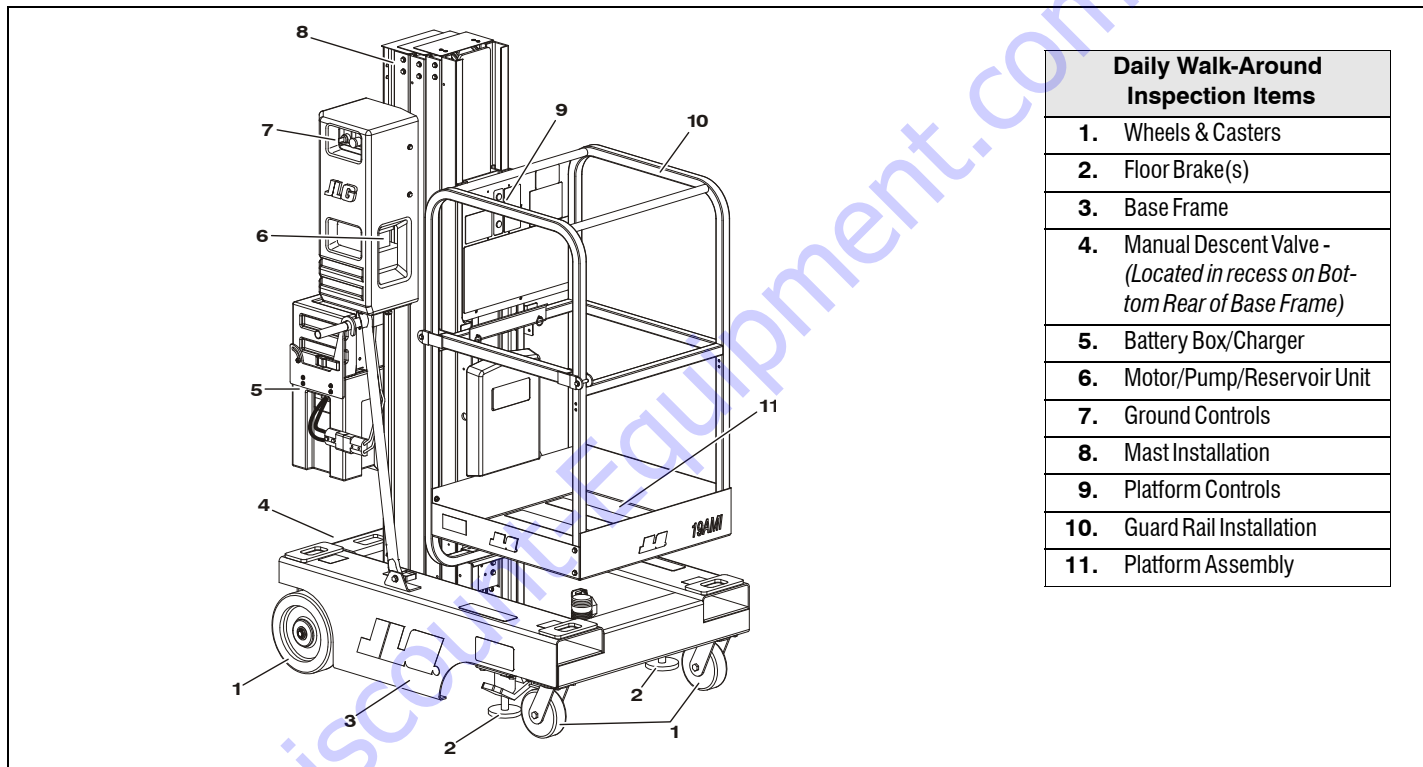

Figure 2-1. Daily Walk-Around Inspection.
4. **Walk-Around Inspection** – Refer to Figure 2-1, on page 2-7
Begin the "Walk-Around Inspection" (See Figure 2-1.) at item 1 listed following. Continue around machine checking each item in sequence for the conditions listed in the "Walk-Around Inspection Check list".